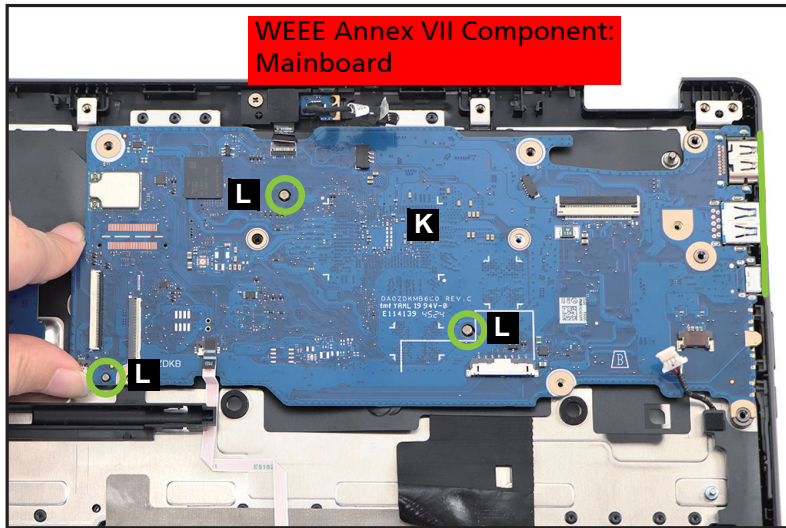

Figure 1-26. Mainboard Removal
16. Release the mainboard (K) from the I/O ports slots and guide pins (L) on the top assembly (Figure 1-26). Then remove the mainboard.